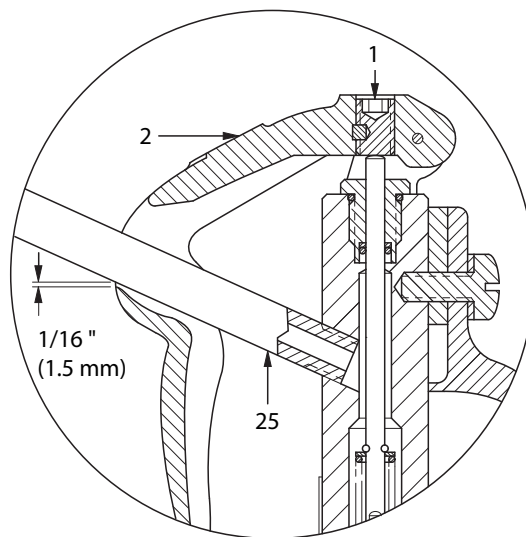

Figure 4 Lever Free-Play
The setscrew should be adjusted so a 1/16 " (1.5 mm) clearance between the bottom of the hole on Lever (2) and the surface of Extension (25) is achieved. See **Figure 4**.